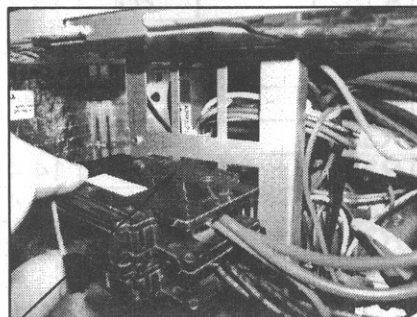

FIGURE 4
- 10.) For heater kits with circuit breakers, snap breaker on to breaker mounting plate. (See fig. 4)